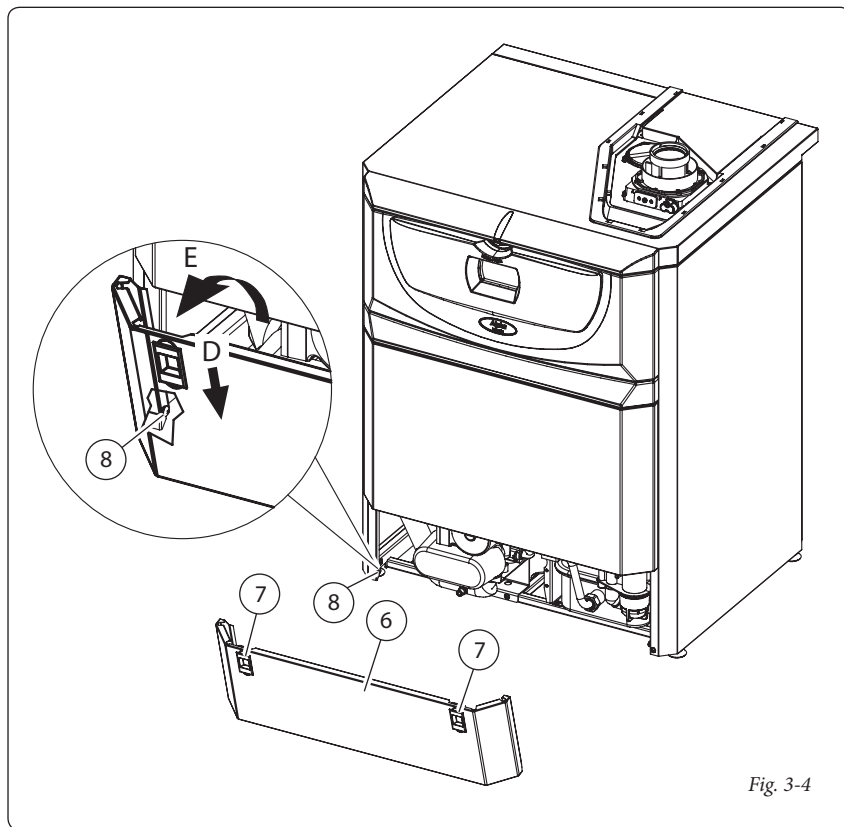
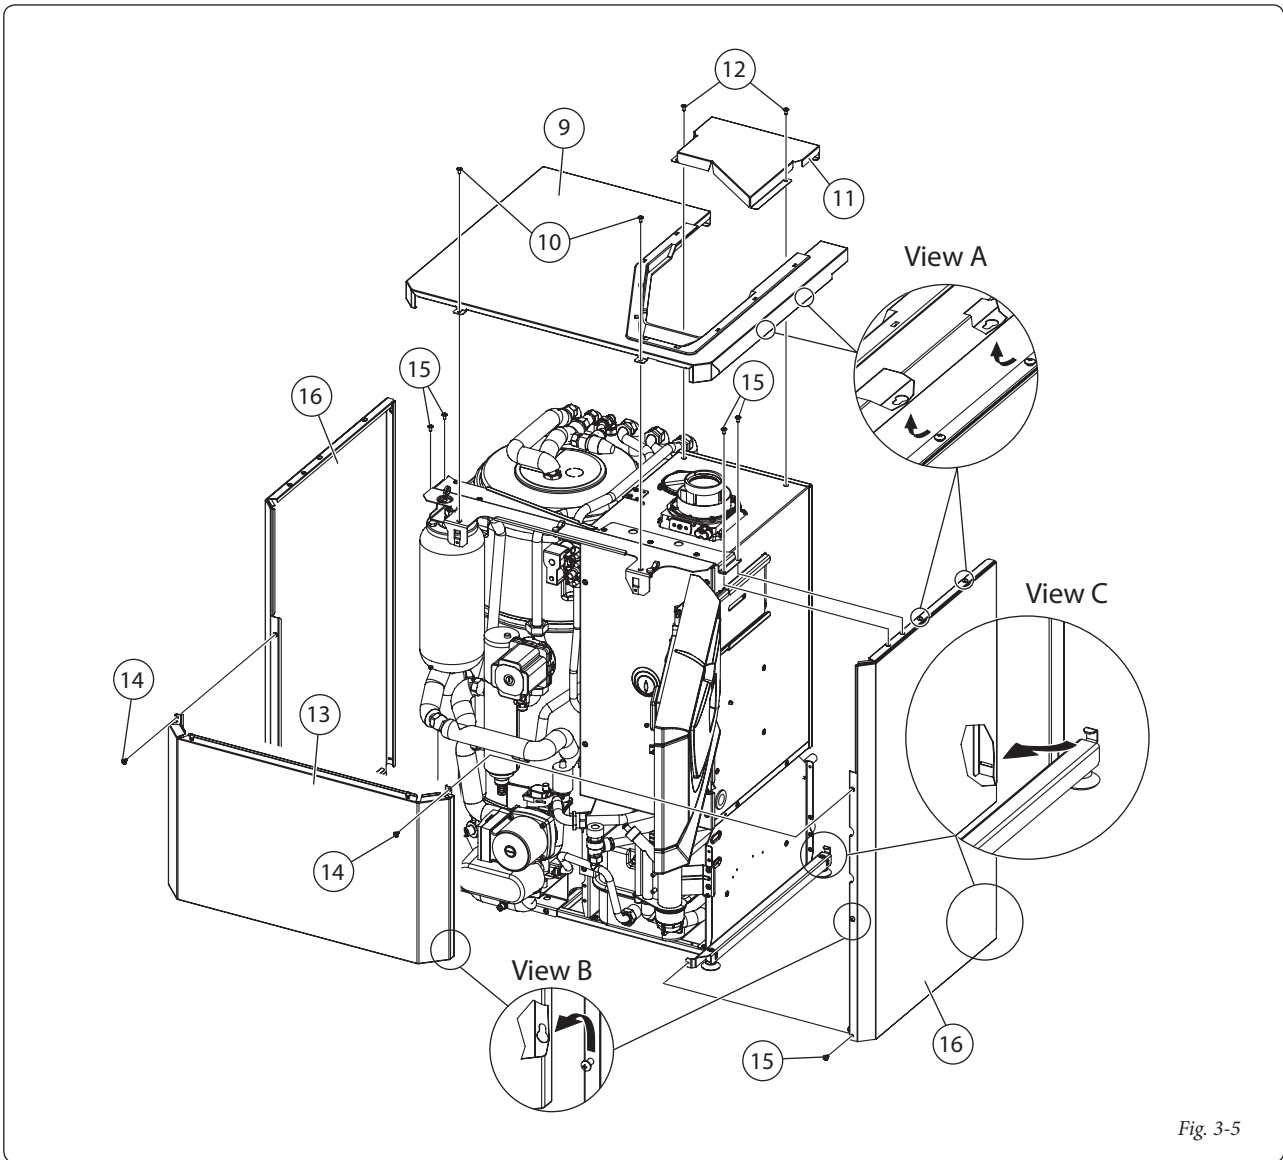

Fig. 3-4
Fig. 3-5
- Remove the lower panel (item 6, Fig. 3-4).
- Step D. Press down on the two catches (7)
- Step E. Hinge the cover forwards on the two screws (8) and lift it off the screws.
- Remove the remaing case panels (Fig. 3-5).
- Top cover (item 9, Fig. 3-5). Remove the two screws (10), pull the cover forwards slightly to disengage the fixings (see view A) and lift it off.
- Rear top cover (item 11, Fig. 3-5). Remove the two screws (12) and lift off the cover.
- Front panel (item 13, Fig. 3-5). Remove the two screws (14), lift up the cover slightly to disengage the fixings (see view B) then pull it forwards off the side panels.
- Side panels (item 16, Fig. 3-5). Remove the upper and lower screws (15) then slide the panel forwards to disengage it from the rear fixings (see view C).